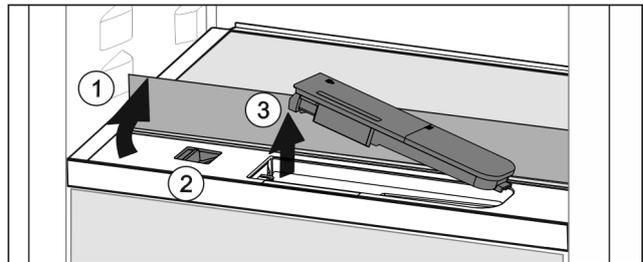

Fig. 56
- ▶ Lift the glass panel and fold towards the rear until it clicks into place *Fig. 56 (1)*.
- ▶ Slide the slider *Fig. 56 (2)* to the left.
- ▶ Remove the water tank *Fig. 56 (3)*.